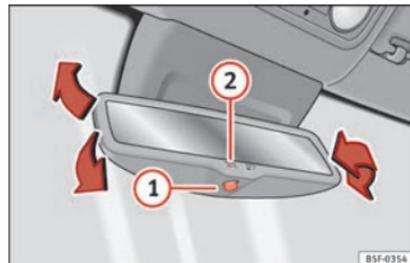

Fig. 19
Switching on the automatic anti-dazzle function: press the ① » Fig. 19 button. The ② warning lamp lights up and, in bright light, the rear view mirror darkens.